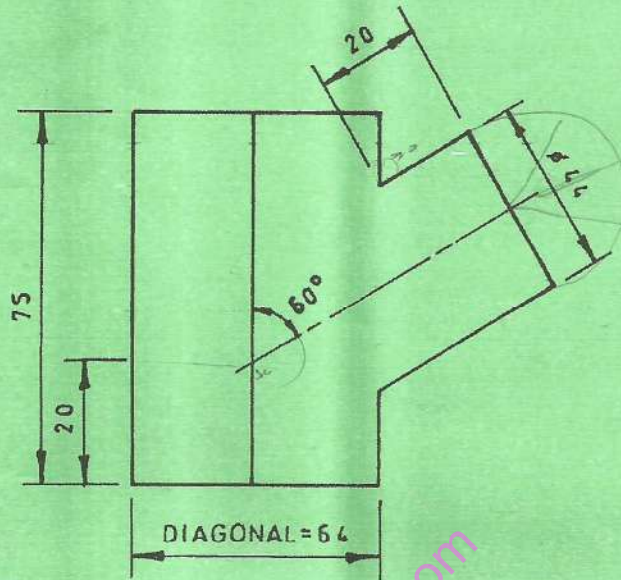

Fig. 8
7. **Figure 8** shows a front elevation of a square pipe intersected by a circular pipe. Copy the given view and draw: